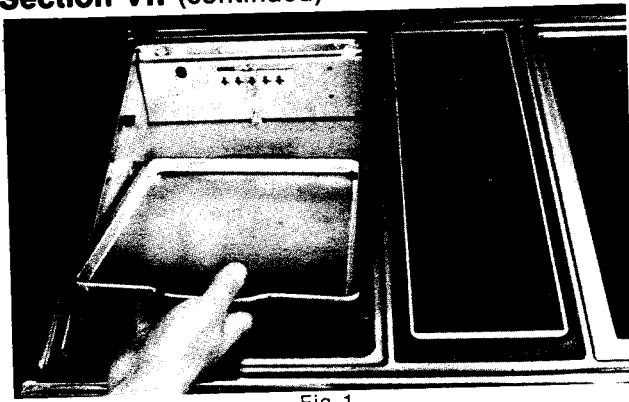

Fig. 1
1. Insert the grease pan as shown in Fig. 1.